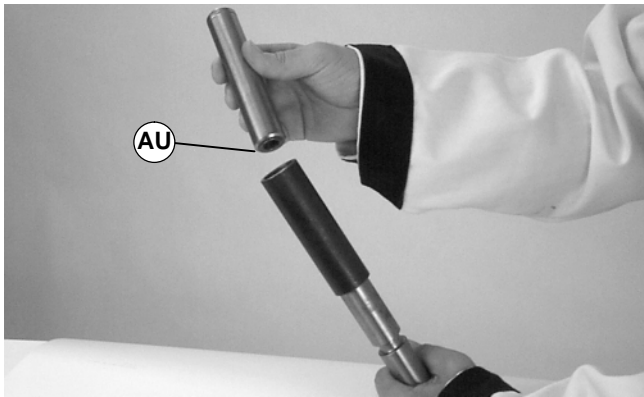

Figure 40
4. Place open end of shaft (AU of Figure 40) into sleeve.